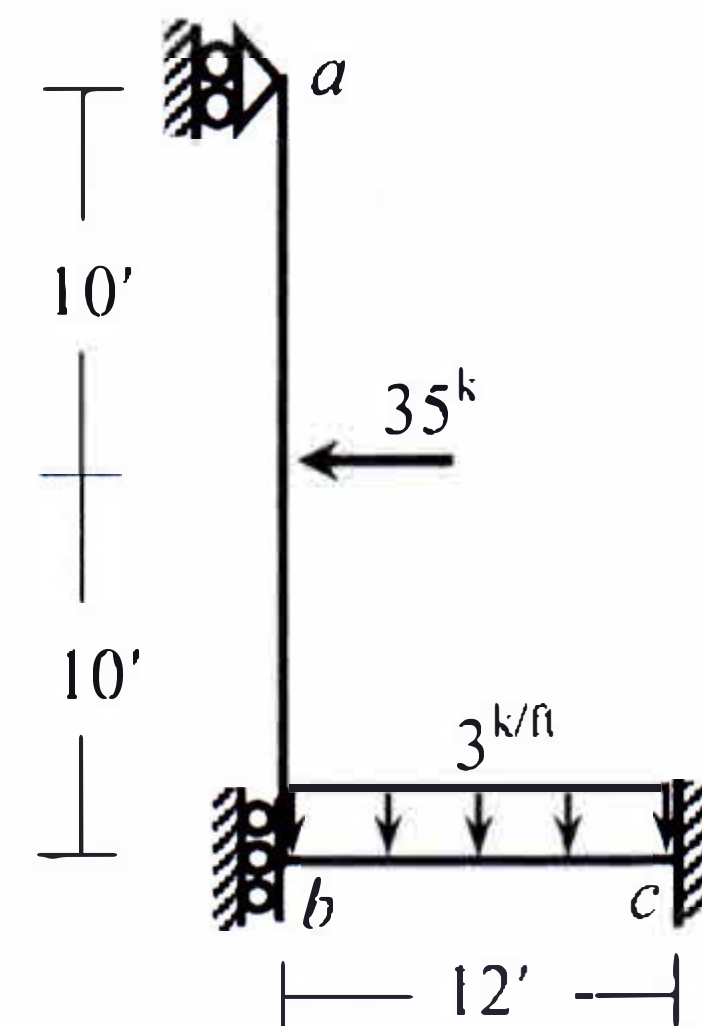

Fig. 3
3. Use Stiffness Method (neglect axial deformations) to calculate deflection and rotation of joint *a* of the frame *abc* shown in *Fig.3* [Given: $EI = 20 \times 10^3$ k-ft²].